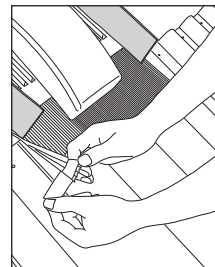

Fig. 4
- 6 Peel off the release paper from the mastic along the underside leading edge of the corrugated flashing and press the flashing down evenly, ensuring a good seal against the tiles below. The surface of the tiles to which the mastic is adhered must be dry and free of dust (Fig. 4).